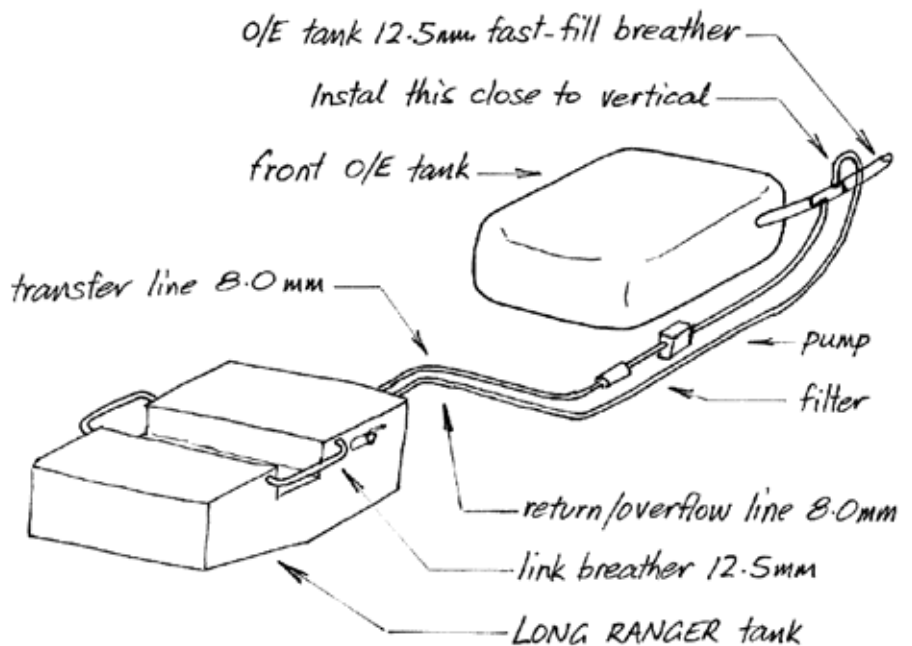

Figure 3
18. Refer to Figure 3. Fit the two link breather hoses, one to each side of tank, connecting front and rear tank sections.
20. Refer to Figure 3. Cut original tank's 12.5mm fast-fill breather and insert the 4-way junction supplied and secure with hose clamps. **NOTE:** The 9.5mm branch must point horizontally to the rear.